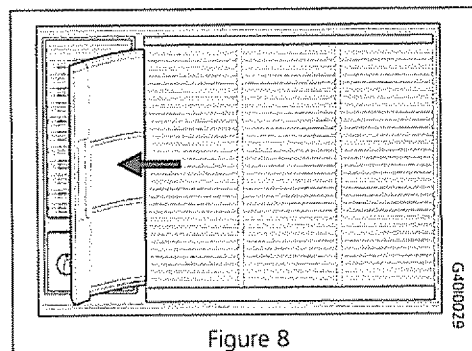

Figure 8
- 6-way louver models have a slide out filter. Grasp the formed handle of the filter and pull it to the left, removing it from the front panel (Figure 8).